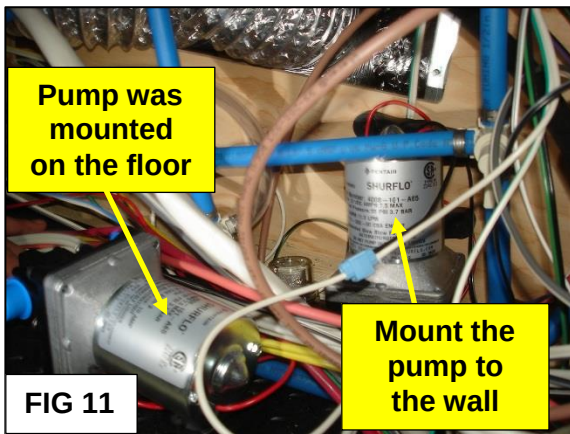

FIG 11
Remove the 4 screws holding the water pump to the floor. Move the pump (**See Fig 11**).
- FIG 11:** Relocate the pump from the floor, and mount up on the plywood wall as shown.